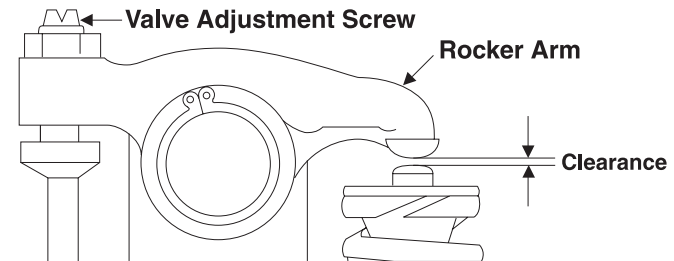

Figure 8: Valve Adjustment
5. To adjust valve clearance, loosen the lock nut on the adjustment screw. Insert a feeler gauge between the rocker arm and the valve stem cap. Adjust until the feeler gauge slides with a slight drag. Tighten the lock nut and recheck the clearance (Figure 8).